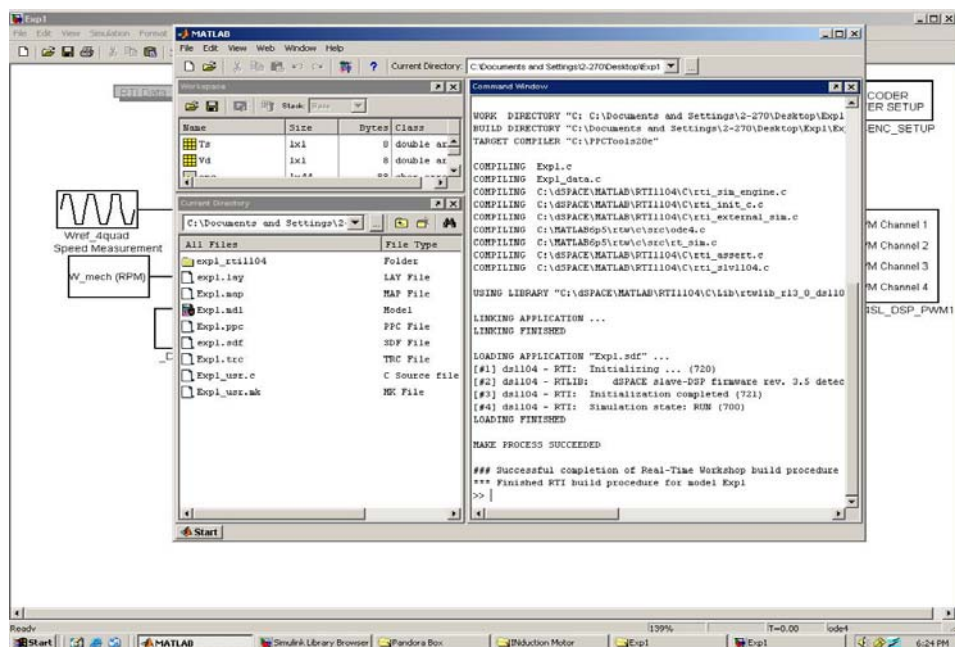

Figure 1.6: Building the Simulink program, real-time implementation
- Type $Ts=1e-4$ in the Matlab prompt. Press CTRL+B to build the **control-system** in real-time now. Refer to Fig 1.6, note the sequence: 1) Compilation of C-code that is generated by Simulink, which will be used to implement **control-system** in hardware DS1104, 2)